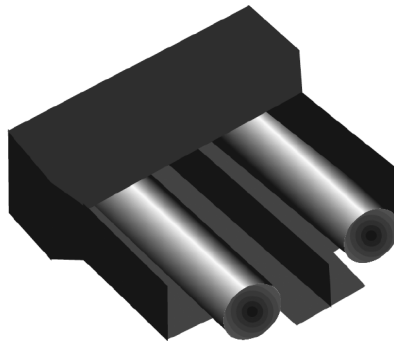

Figure 5.3: The fuse box and holder (with fuses), removed from instrument.
- When removed, the fuse assembly will appear as shown in Figure 5.3. The holder inside contains two fuses.